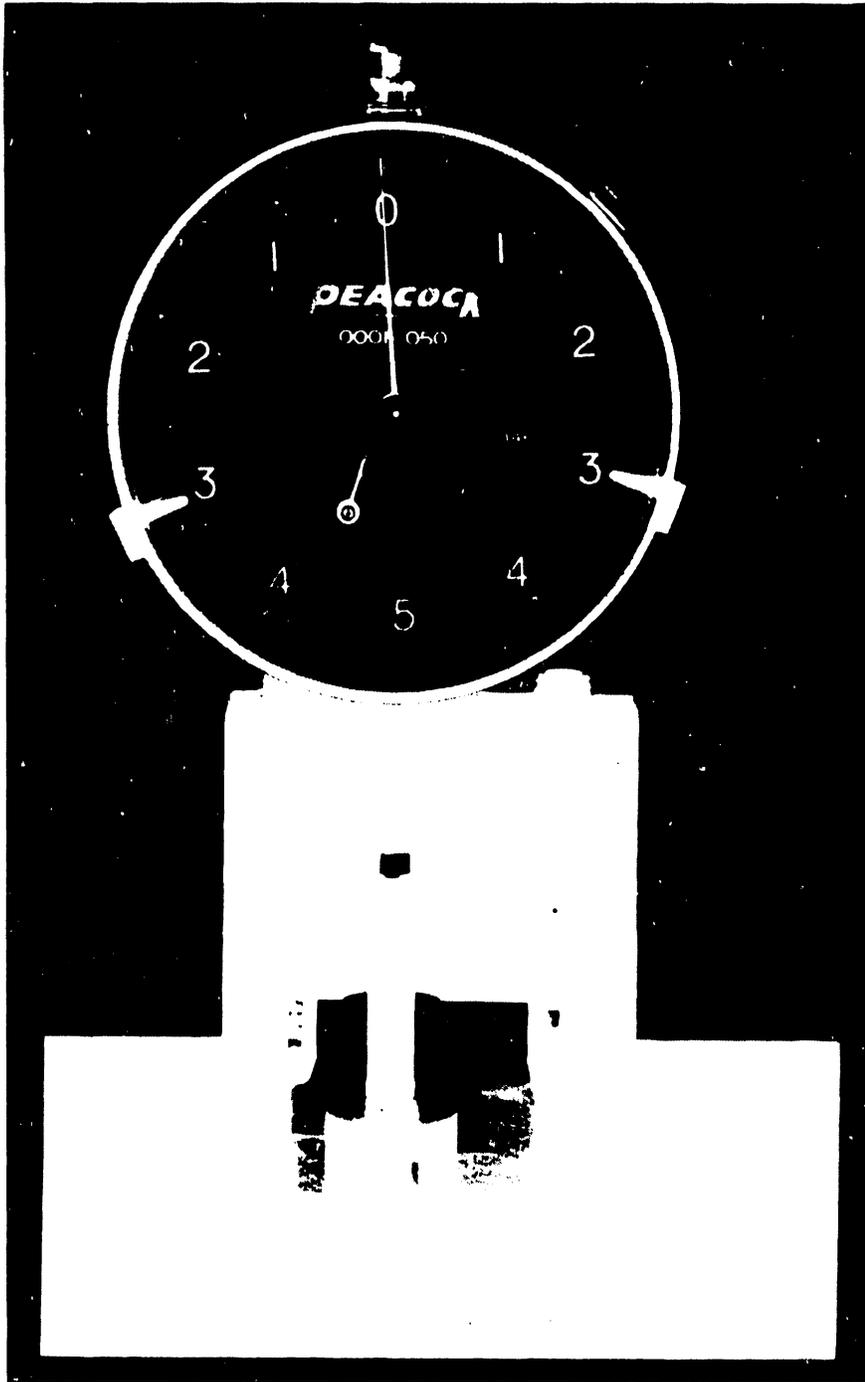

FIGURE 40. DIAL INDICATOR
- b. Set up the penetration dial indicator on the penetration tool master. Check penetration tool to make sure its indicating surfaces are clean and properly set: (long hand on zero and small hand on three) while it's resting on the penetration tool master. See Figure 40.